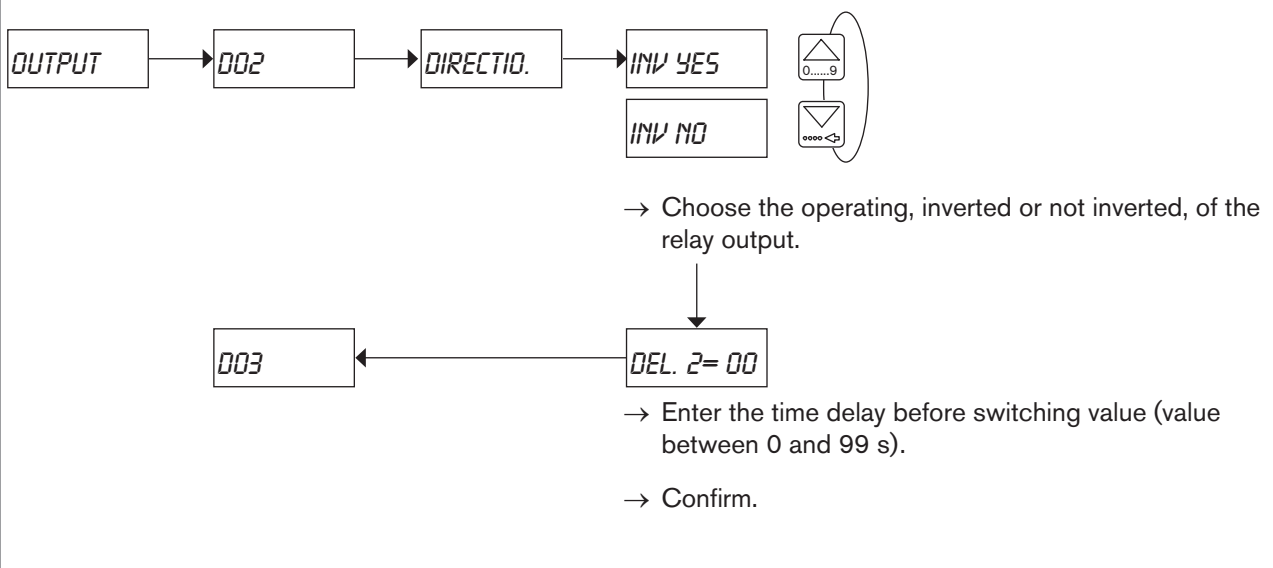

Fig. 37 : Configuration of the DO2 or DO3 relay output to indicate the fluid circulation changes
- to switch a load to indicate the fluid circulation changes. See Fig. 37.